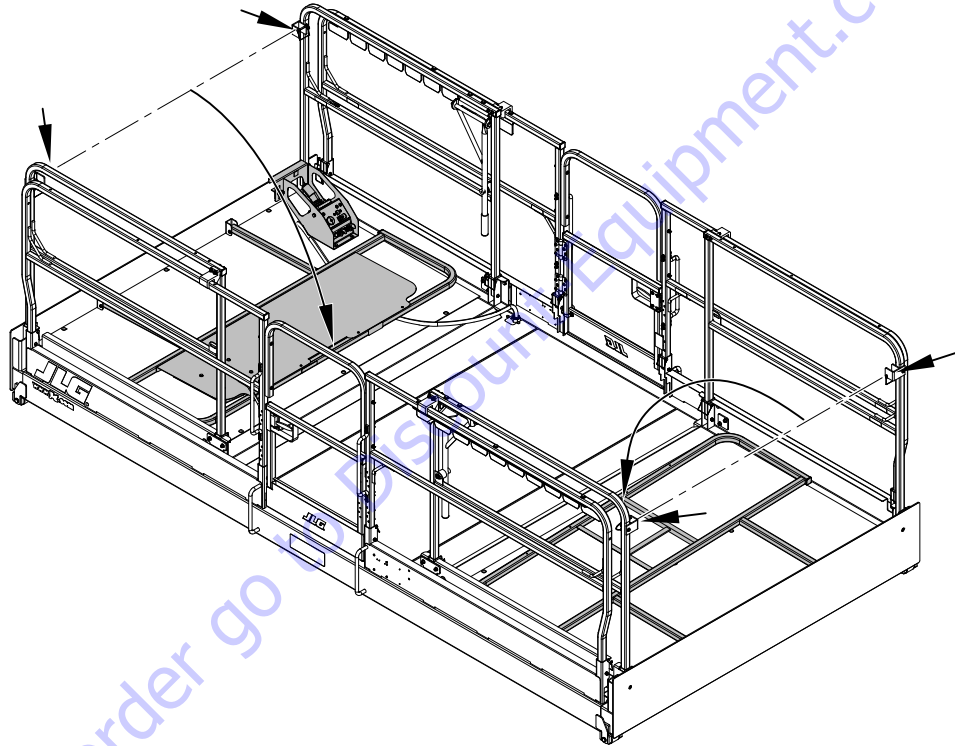

Figure 3-4. Platform End Rails - Fold Down Sequence and Rail Pin Locations
2. Pull platform end rail pins (two pins per end rail, see short arrows in Figure 3-4.) and fold the platform end rails down onto the platform deck.